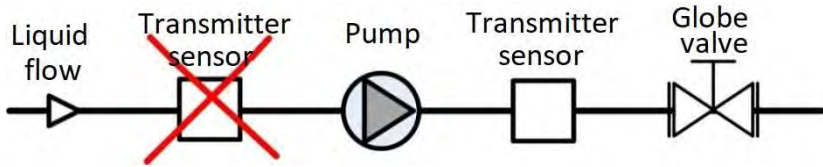

Figure 5.6 Selection of the flowmeter sensor installation location
**Installation of the sensor near pumps and valves:** avoid installing the flow meter on the pump suction side due to the risk of vacuum in the pipeline (vacuum can cause the lining to peel off and the sensor to be broken), Figure 5.6.